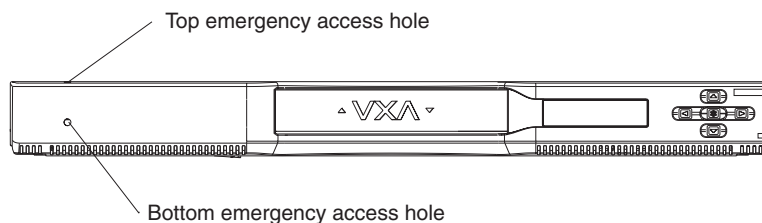

Figure 19. Access hole locations
For security, you can block access to the gear shaft from the hole in the front of the faceplate. A screw that is accessible from the hole in the top of the faceplate (see Figure 19) can be lowered in front of the gear shaft. To lower this screw, use a small Phillips screwdriver to turn the screw clockwise until it blocks access to the gear shaft.
- ___ 1. Carefully insert a small Phillips screwdriver into the top access hole (see Figure 19) on the top front of the autoloader. Unscrew the security blocking screw.
- ___ 2. Carefully insert a small Phillips screwdriver into the bottom access hole (see Figure 19) on the front of the autoloader. Make sure that the screwdriver engages the head of the gear shaft.